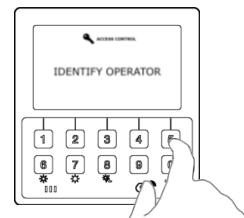

Figure 6 Sign-on – using keypad
2. Identify yourself by using your PIN (Figure 6) or swipe card (Figure 7).